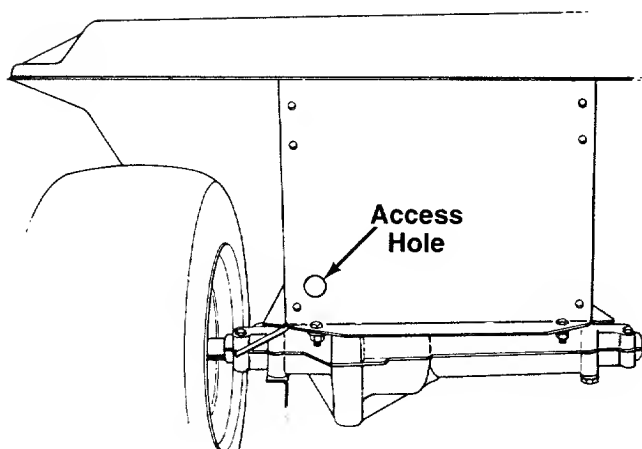

FIGURE 23.
3. Disconnect the large spring from the transmission support bracket, using a spring puller or other suitable tool. An access hole is provided in the rear of the frame for this purpose. See figure 23.